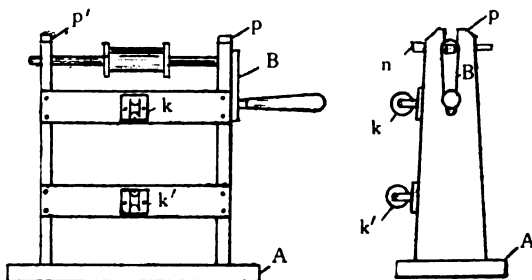
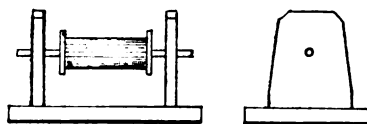

FIG. 6.
FIG. 7.
hand, but it will greatly facilitate the winding to make use of the winder shown in Fig. 6. In this, the base-board A is of walnut, 16 ins. by 7 ins. by 1 in., and is mortised to take the uprights p and p'. The uprights are 15 ins. high, $4\frac{1}{4}$ ins. wide at the bottom, 3 ins. wide at the top, and 1 in. thick. A slot is cut in the top of each upright, about $\frac{1}{4}$ in. wide and 2 ins. deep. This should be done by boring a 1 in. diameter hole about $1\frac{1}{2}$ ins. from top, and then cutting away the wood between hole and top of upright, thus leaving a round at the bottom. A wooden key (Fig. 6) is used to keep the axle at the bottom of slots. To the front edges of each upright is screwed a sash pulley or similar fitting, k, k', preferably of brass. Each pulley is mounted on a cross piece, as shown in the Fig. The axle is provided with wooden crank (B), and is best
made from beech. Two or three axles should be provided to take bobbins of different bore, and each should have its ends turned down to $\frac{1}{4}$ in. diameter where it rests in slots (see Fig. 6). A square is left on one end to take crank. The wire is usually supplied wound upon reels, and these may be mounted on an axle so as to revolve, and supported as shown at Fig. 7. The wire is led from this reel, and passed under the bottom pulley on the front of winder; then carried up and over the upper pulley, and attached to the axle of winder. The wire should be given about four turns round axle close to head of bobbin, and then lifted over the bobbin head, and wound regularly until the correct number of layers has been laid on. The use of the pulleys on front of winder is to give the necessary tension to the wire and, at the same time, remove irregularities. A smooth, round-edged wedge of beech may be used, in conjunction with a mallet, to help